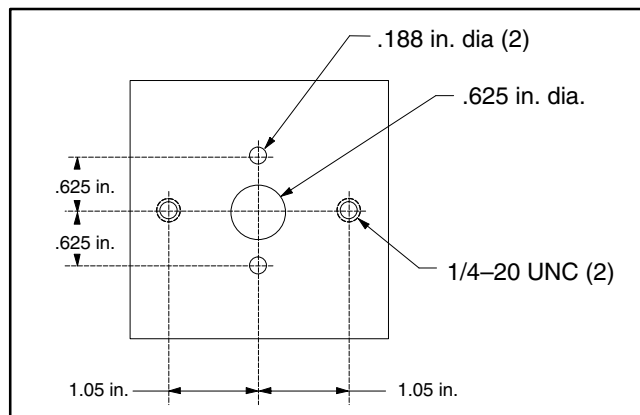

Figure 25
1. Make a seal removal tool from a 1/4 x 3 x 3 in (.63 x 7.6 x 7.6 cm) piece of steel as shown (Fig. 25).